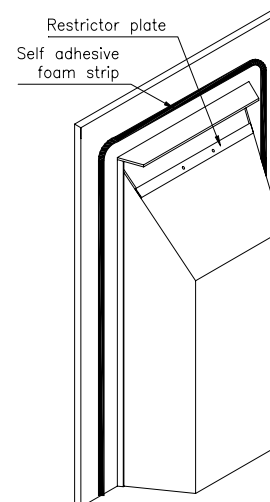
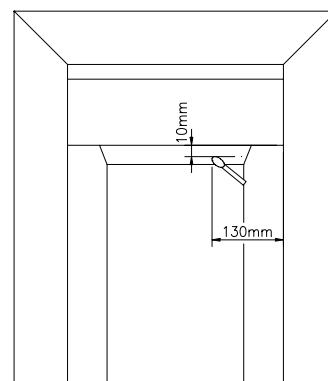

Fig. 3 Fitting the restricter plate
Fig. 6
1. Fit the restrictor plate using 2 screws provided, as shown in Fig. 3.
2. Secure the self-adhesive foam strip to the back of the sealing flange (Fig. 3)
1. Secure the self-adhesive foam strip to the back of the sealing flange or convection box flange as appropriate (Fig. 3).
3. After approximately 5 minutes place a smoke match 130mm from the right hand side, inside edge of the trim, 10mm below and 10mm within the opening of the fire as shown in Fig. 6. Ensure that the smoke is drawn into the fire aperture. If spillage is detected, operate the fire for a further 10 minutes and repeat the test. If spillage is still detected introduce ventilation into the room by opening a window or door. If spillage is no longer detected then purpose made ventilation with a minimum area of 100 sq.cm must be provided. If after introducing ventilation into the room spillage is still detected, remove the restricter plate if fitted (see Fig. 3) and retest for spillage. If spillage is still detected the cause must be discovered and the fault corrected. If the fault cannot be corrected, disconnect the gas supply to the appliance and seek expert advice. Possible causes of spillage are chimney restrictions, or an incorrect cowl or terminal.